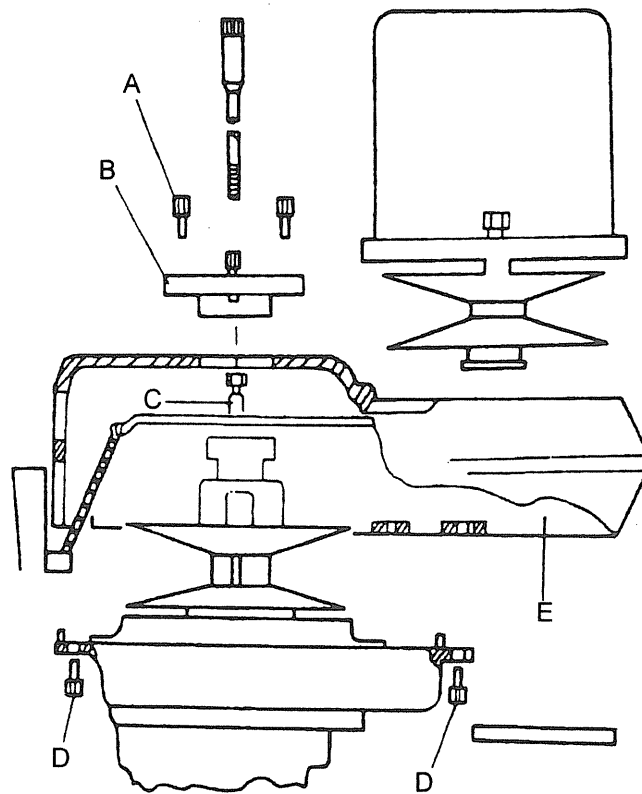

Figure 11. Removing the Var-Drive Belt
## CHANGING VARI-DRIVE BELT (Figure 11)
Complete the previous procedures for removing the motor, then remove the three screws (#14, page 37) (A. Fig. 11) and lift out the top bearing cap (#13, page 37) (B). Looking down inside of the housing, locate and remove two socket head cap screws (#123, page 37) and sleeves (#38, page 37) (C). Next, remove the six screws (#137, page 37) (D), then holding the belt housing (E) to the base (#50 page 37).